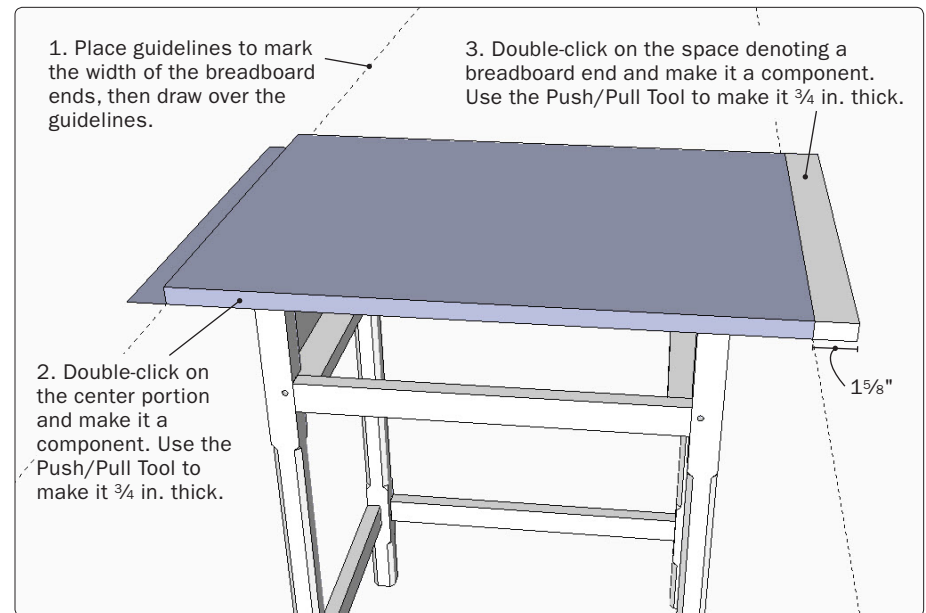

Figure 37. Create components for the top and one breadboard.
Step 33 Place guidelines at each end of the top face to mark the width of the breadboard ends. Use the Line Tool to trace over the guide lines. Select the center portion of the face and make it a component named Top. Use the Push/Pull Tool to make the top $\frac{3}{4}$ in. thick. Follow the same procedure for one of the breadboard ends, as shown in Figure 37.